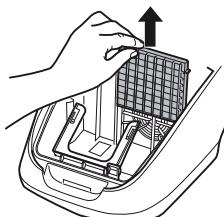

Fig. 24
2. Remove the filter holder with the motor protection filter (Fig. 24).